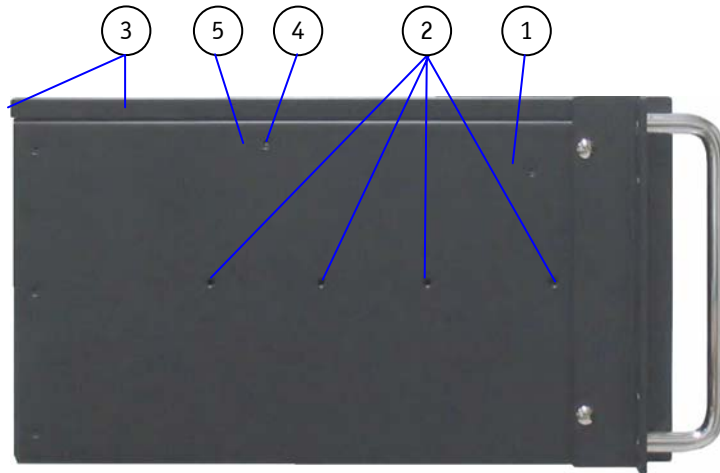

Fig. 21: KISS 4U Short V2 platform – side view
Four M4 metric tapped holes are available at the left and right side of the unit (Fig. 21, pos. 2). These can be used in order to attach slide rails or corresponding L brackets (not included) to the KISS 4U Short V2 platform for system installation into a 19" industrial cabinet.
- 1 Threaded holes for the externally accessible fastening screws (Fig. 21, pos. 4)
- 2 Holes for the internal bolts (Fig. 21, Pos. 5)
5. Loosen (as shown in the Fig. 29 step 1 and 2), the internal fastening screw (Fig. 6, pos. 14) that secures the card hold down bracket and the externally accessible fastening screw that secure the card hold down bracket to the chassis (Fig. 21, pos. 4). Pull the card hold down bracket to the left (Fig. 29, step 3) to detach it from the sideways internal mounted bolt. Lift the card hold down bracket out (Fig. 29, step 4). Put the card hold down bracket and the screws aside for later use.